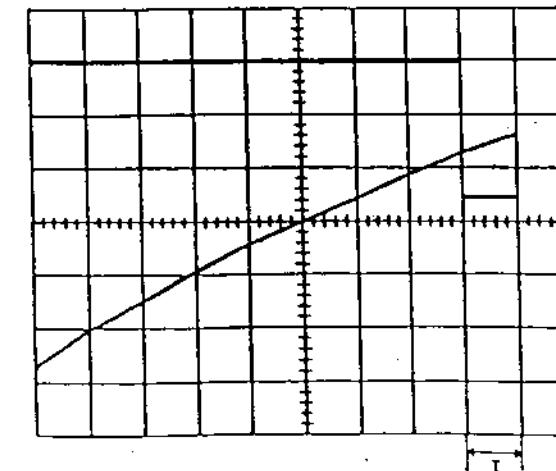

Fig. 6
- (1) Connect CH-1 on the oscilloscope to TP2001 and connect CH-2 on the oscilloscope to TP2003.
- (2) Adjust VR2002 so that the "T" portion measures  $2.0 \pm 0.3\text{msec}$  as shown in Fig. 6.